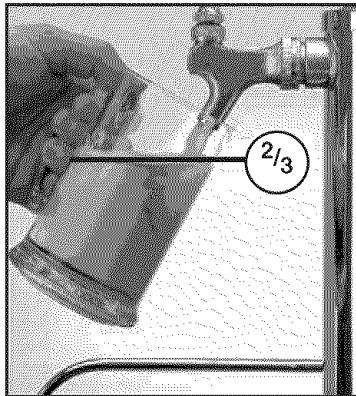

Fig. 14
3. Fully draw the dispenser handle and fill the glass to 2/3 full. (as shown in **Fig. 14**).